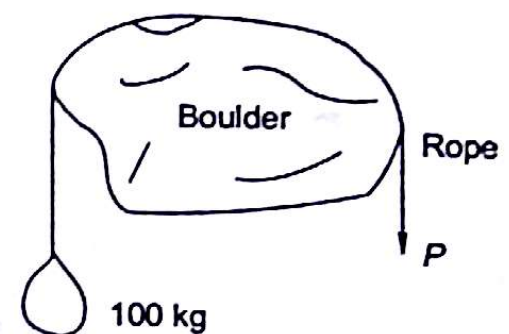

Fig. 7.10
7.3 A 100 kg package is attached to a rope which passes over an irregularly shaped boulder with uniform surface texture as shown in Fig. 7.10. If the downward pull $P = 140$ N is required to lower the package at constant speed, determine: (a) coefficient of friction between rope and boulder, (b) force P required to raise the package at a constant speed.